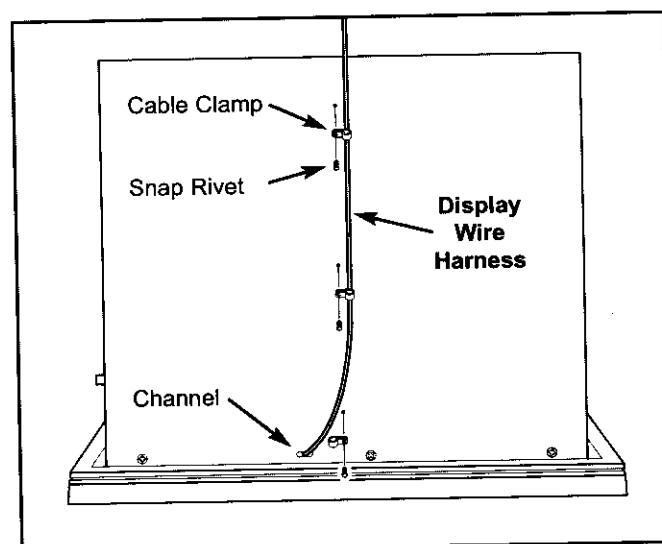

Figure 7-7. Display Wire Harness Removal
To remove the display wire harness, the upper drawer assembly must be extracted and the control panel must be removed first, then (See Figure 7-7):
3. Pull wire harness down through channel in drawer front. (See Figure 7-7)